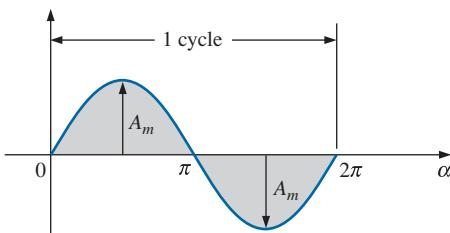

FIG. 13.53
**EXAMPLE 13.16** Determine the average value of the sinusoidal waveform in Fig. 13.53.